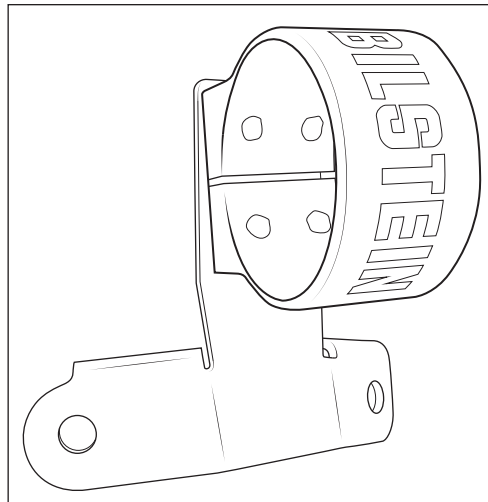

Figure 6
5. Bolt the reservoir clamp to the AEV mounting bracket with clamp bolt head pointed downward. Bolt in place using top set of holes in clamp and tighten bolts to 30 ft-lb. (fig. 6)